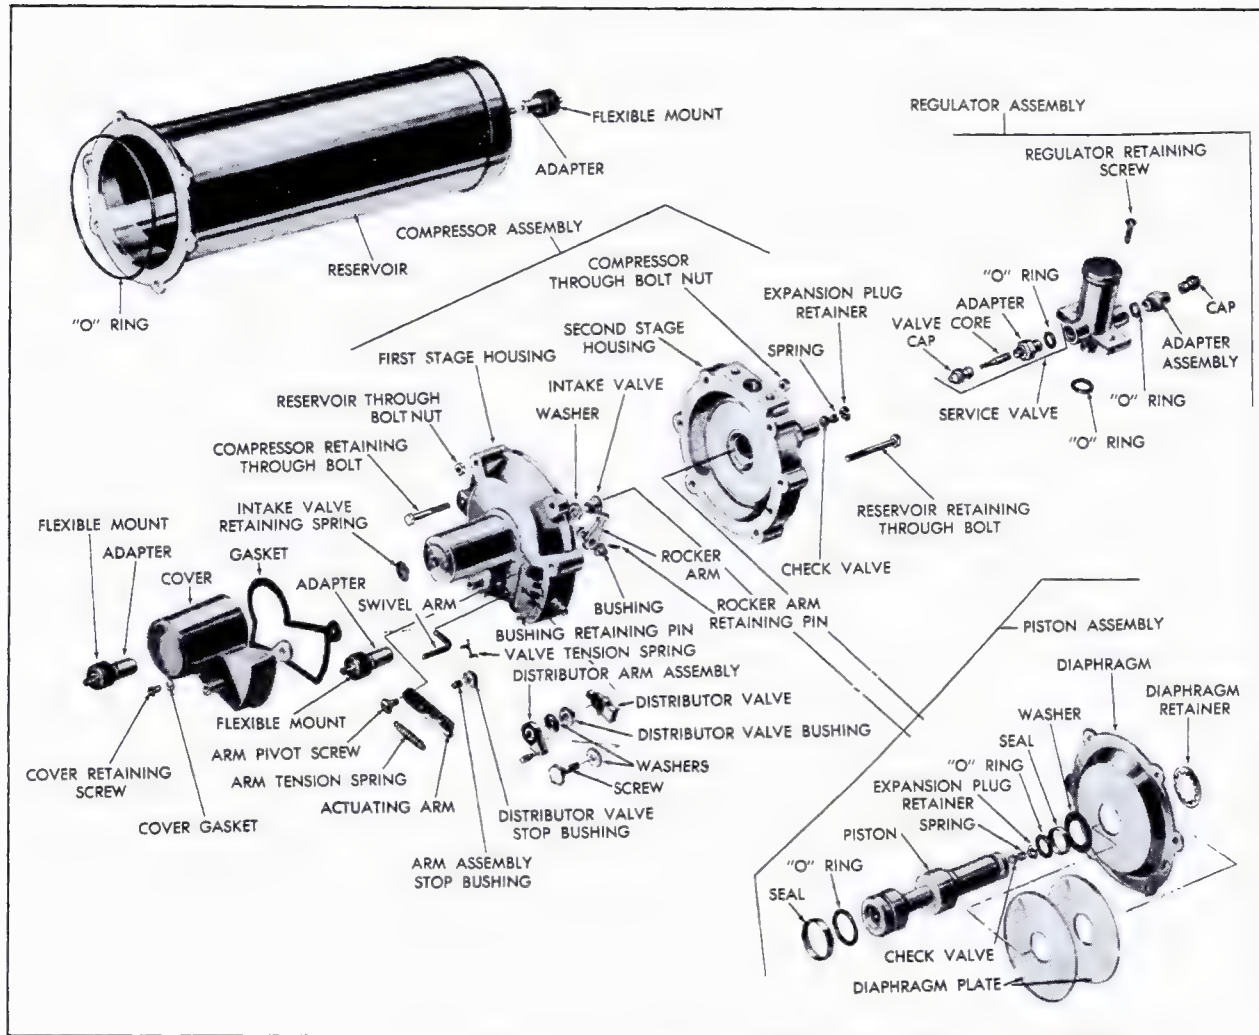

Fig. 4-10 Compressor Assembly Disassembled
13. Disassembling Compressor, Reservoir and Regulator into Major Components (Fig. 4-10)
1. Install new washer, old plate, new diaphragm with outer lip toward second stage side, Fig. 4-10 and second plate. Plates should be installed so that lip on both plates faces outboard from diaphragm.